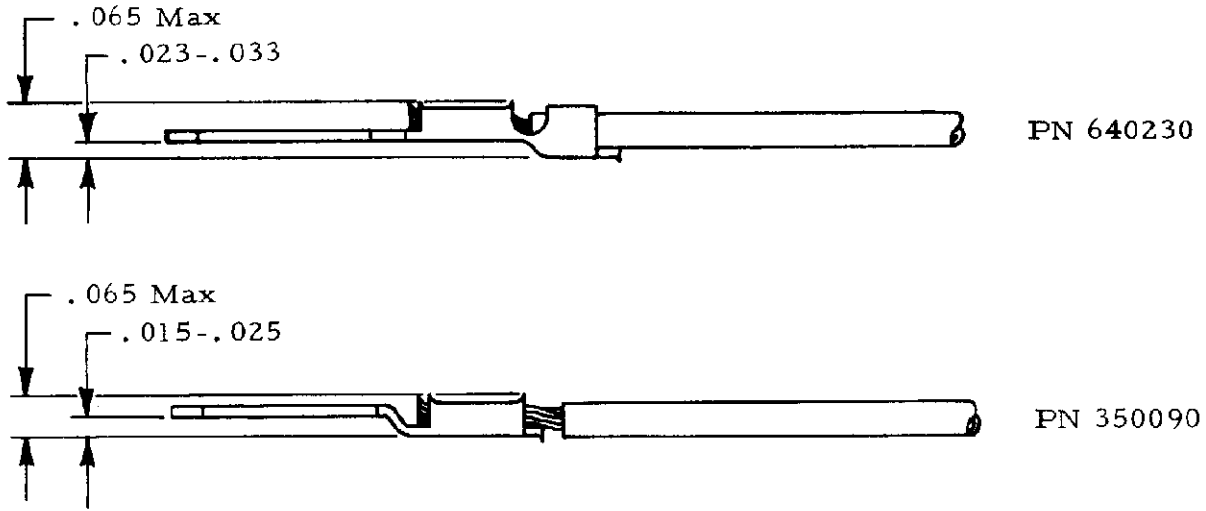

Figure 2
(1) Rear bellmouth length shall not exceed .020 and be within the requirements of Figure 2. In the event of conflict, the requirements of Figure 2 shall take precedence.
(2) Front bellmouth length shall not exceed .010.
(1) The contact shall be within the limits shown in Figure 2 after crimping.